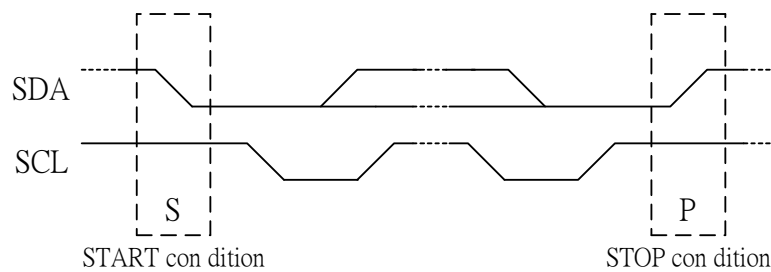

Figure 2 Definition of START and STOP conditions
The 3-SPI example of timing sequence is shown below figure2; data length instruction is followed by Display data set.
A LOW-to-HIGH transition of the data line while the clock is HIGH is defined as the STOP condition (P). The START and STOP conditions are illustrated in Figure 2